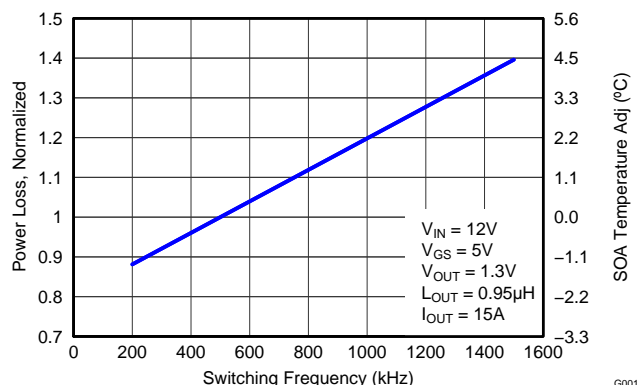

Figure 5. Normalized Power Loss vs Switching Frequency
- Normalized Power Loss for switching frequency  $\approx 1.11$  (Figure 5)
- SOA adjustment for switching frequency  $\approx 1.03^\circ\text{C}$  (Figure 5)
- The placement of the input capacitors relative to VIN and PGND pins of CSD87381P device should have the highest priority during the component placement routine. It is critical to minimize these node lengths. As such, ceramic input capacitors need to be placed as close as possible to the VIN and PGND pins (see Figure 5). The example in Figure 5 uses 1x10nF 0402 25V and 4 x 10μF 1206 25V ceramic capacitors (TDK Part # C3216X5R1C106KT or equivalent). Notice there are ceramic capacitors on both sides of the board with an appropriate amount of vias interconnecting both layers. In terms of priority of placement next to the Power Stage C21, C5, C8, C19, and C18 should follow in order.